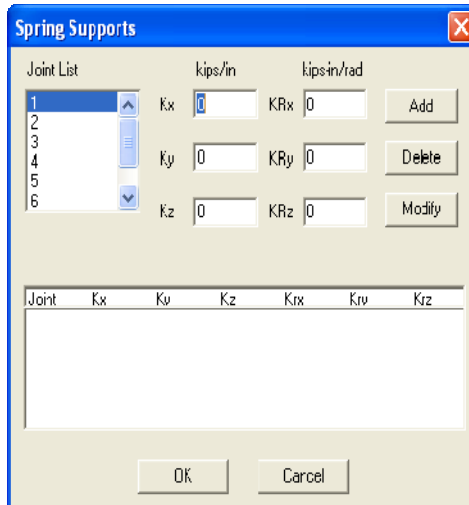

Figure 3-22 Spring Supports dialog box
- From the Process menu, select Spring Supports. The dialog box of Figure 3-22 appears. Some text boxes may not be available, depending on the structure type selected.